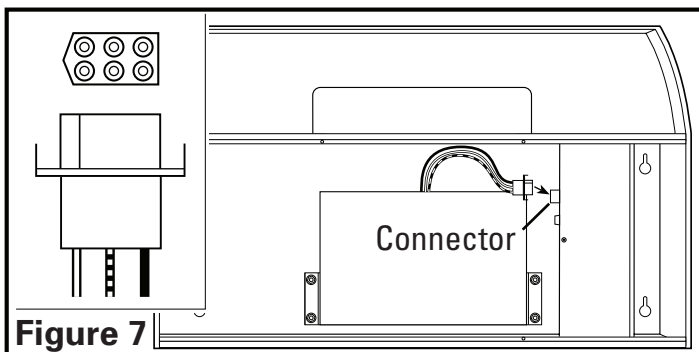

Figure 7
3. Plug the blower into the appropriate connector on the side of the wire compartment. It will only fit one way (**Figure 7**).
1. To replace the fuse, turn the fuse cap located next to the wire connector counter clockwise and pull out. Replace with only a 125-Volt fuse, 1-1/2 Amp Max. Reinstall the fuse back into the hood (**Figure 7**).